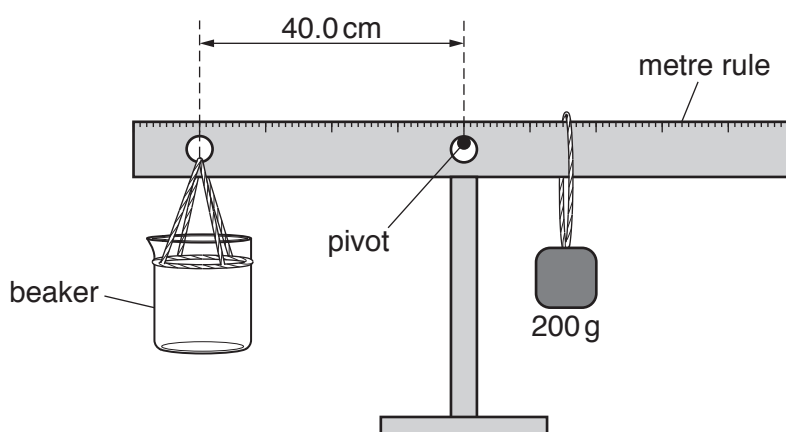
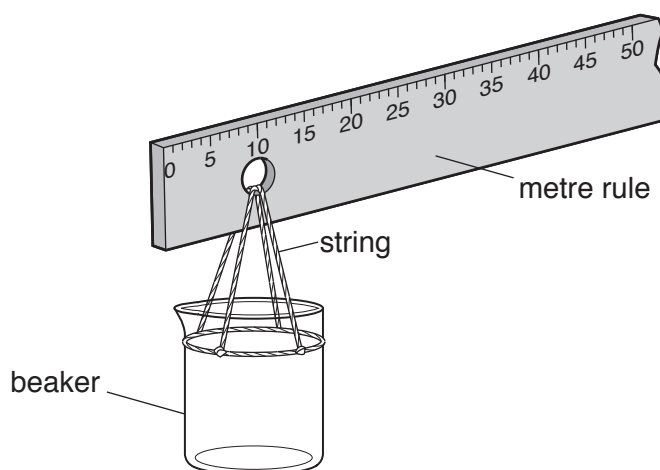

Fig. 4.1
Fig. 4.2
1. The Supervisor should set up the apparatus as shown in Fig. 4.1. The metre rule should be balanced. Supervisors should adjust the height of the pivot so that the beaker is no more than 5 cm above the bench.
- Each candidate must have a beaker identical to that used by the Supervisor. String should be tied securely around the beaker, as shown in Fig. 4.2 and attached to the metre rule at the 10.0cm hole as shown in Fig. 4.1 and Fig. 4.2.
- At the changeover, the Supervisor should ensure that the apparatus is restored to the arrangement shown in Fig. 4.1 and ensure that there is sufficient oil for the next candidate. The oil in the beaker should be tipped back into the container. A paper towel should be used to clean the inside of the beaker before the next candidate uses the apparatus.